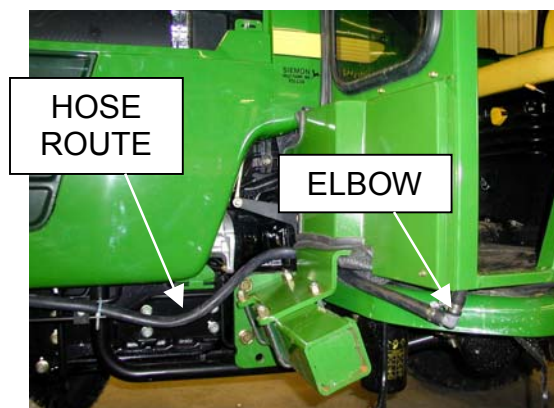

Figure 9
- 32) Install (1) elbow #3-10282, measure and cut heater hose from left side of cab to the lower radiator return nipple, just installed. See Figure 9.